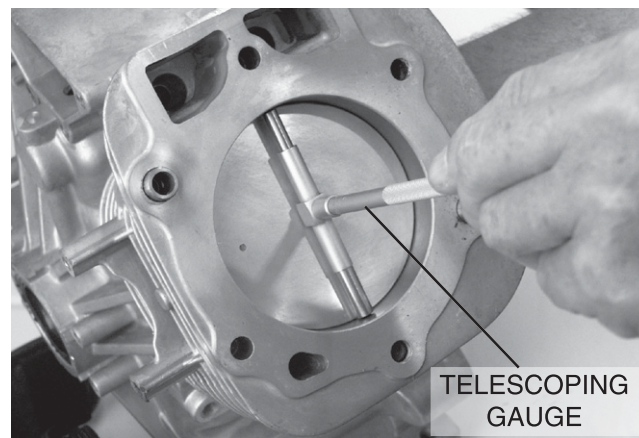

Figure 10-2. Check Cylinder Bore
- a. Measure cylinder bore in 6 points at right angles as shown, Figures 10-2 and 10-3.